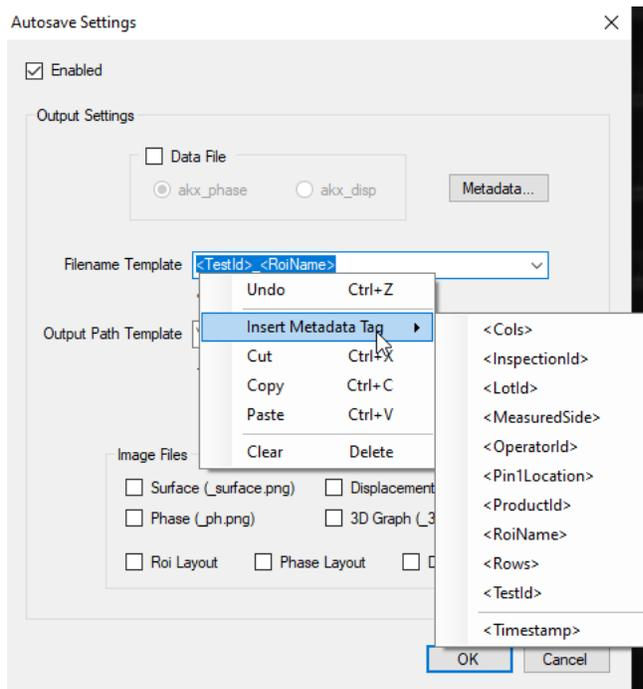
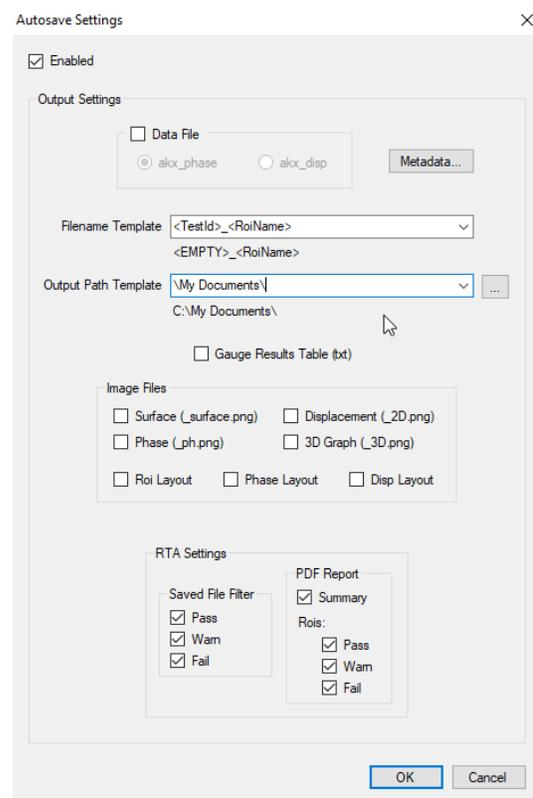

Figure 2.29 Autosave Settings
Figure 2.30 Autosave Settings w/ RTA enabled
- **Autosave Settings** – Allows the user to control autosave settings for phase and displacement measurements acquired in this program. Metadata settings can be used to populate filenames, as shown in **Figure 2.29**. See **Appendix A.1.1** for available Metadata fields. When RTA is enabled (**Figure 2.30**), files saved can be filtered by pass/warn/fail determination and the user can choose whether or not to save a summary PDF report with or without ROIs filtered by pass/warn/fail as well.